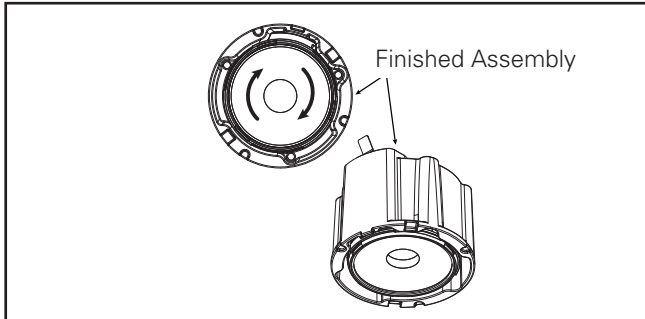

Figure 16
4. Fasten optic assembly with LED Light Engine by gently twisting clockwise until it stops. (Figure 16) Ensure the optic is secured in place.